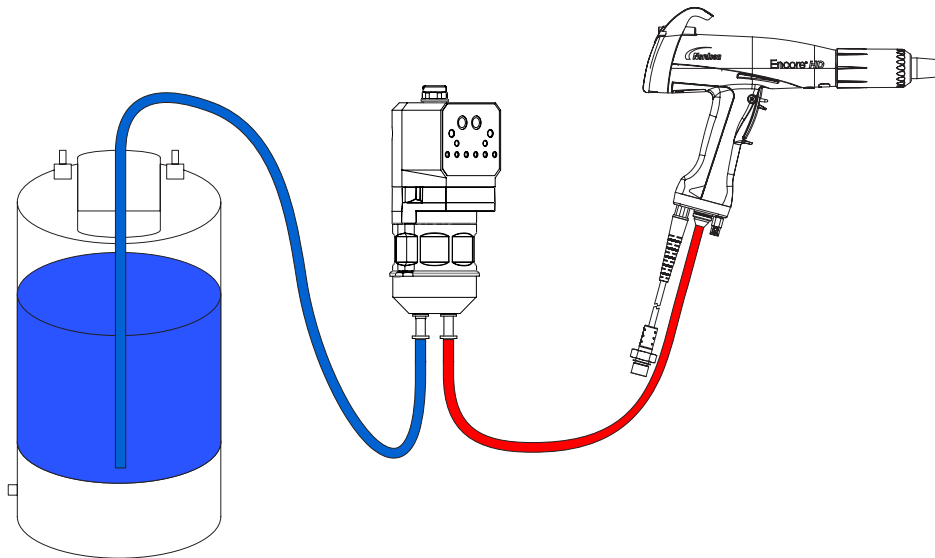

Figure 14 Tubing Connections
1. Connect the suction tubing as shown in Figure 14.